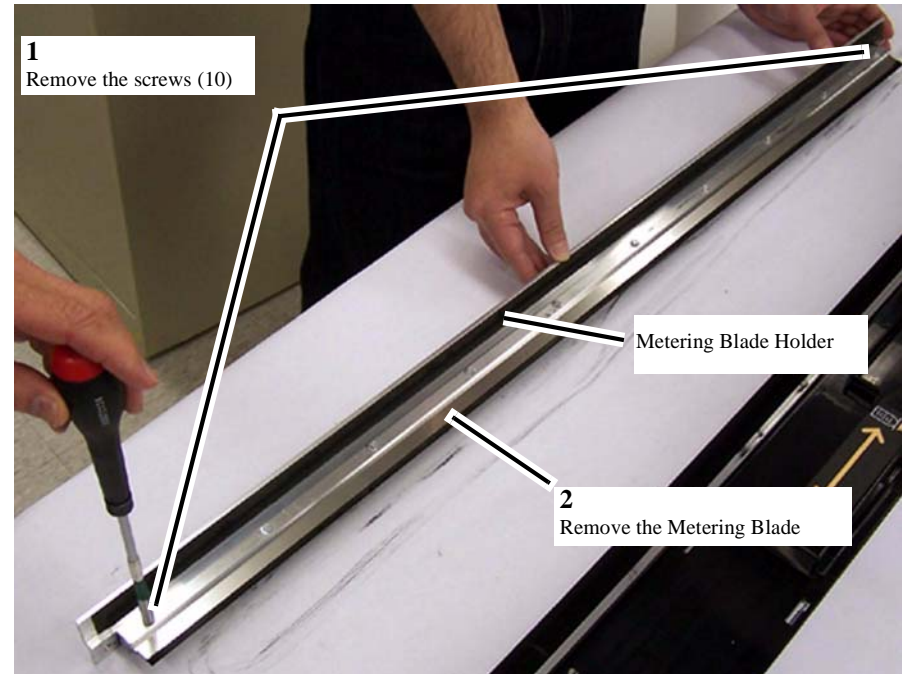

Figure 2 Metering Blade removal
5. Remove the Metering Blade (Figure 2).
- a. Remove the screws (10).